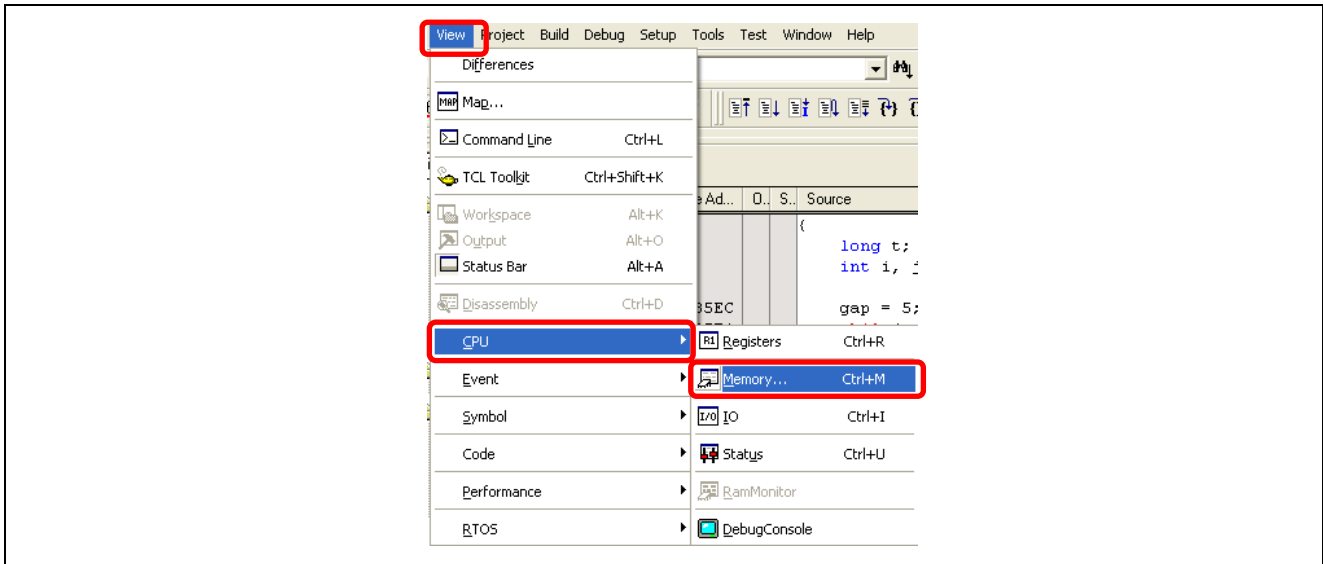

Figure 4.38 Opening the [Memory] Window
- (1) Select [View -> CPU -> Memory] as shown in Figure 4.38 to open the [Memory] window.